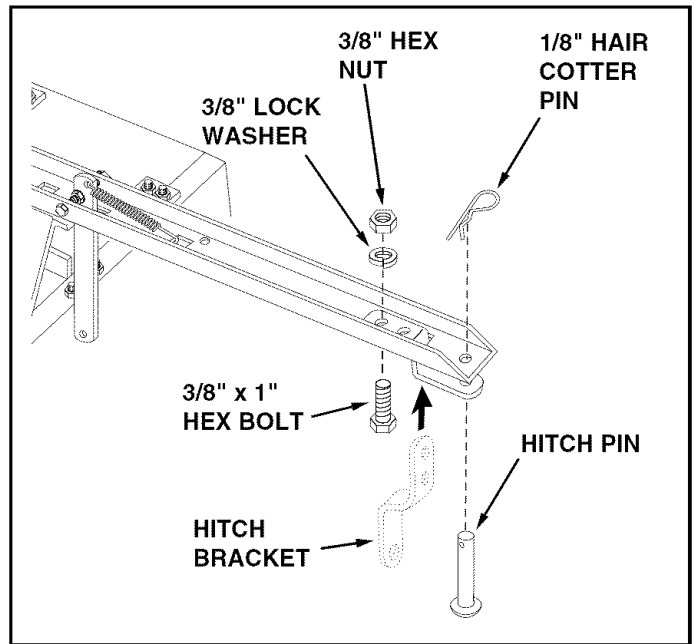

FIGURE 10
19. Assemble the end of the hitch bracket (two holes) up through the slot at the front of the drawbar tongue. Fasten it to the tongue using the 3/8" x 1" hex bolt, 3/8" lock washer and 3/8" hex nut. **Tighten.** See figure 10.
20. Assemble the hitch pin through the hitch bracket and the tongue and secure it with the 1/8" hair cotter pin. See figure 10.